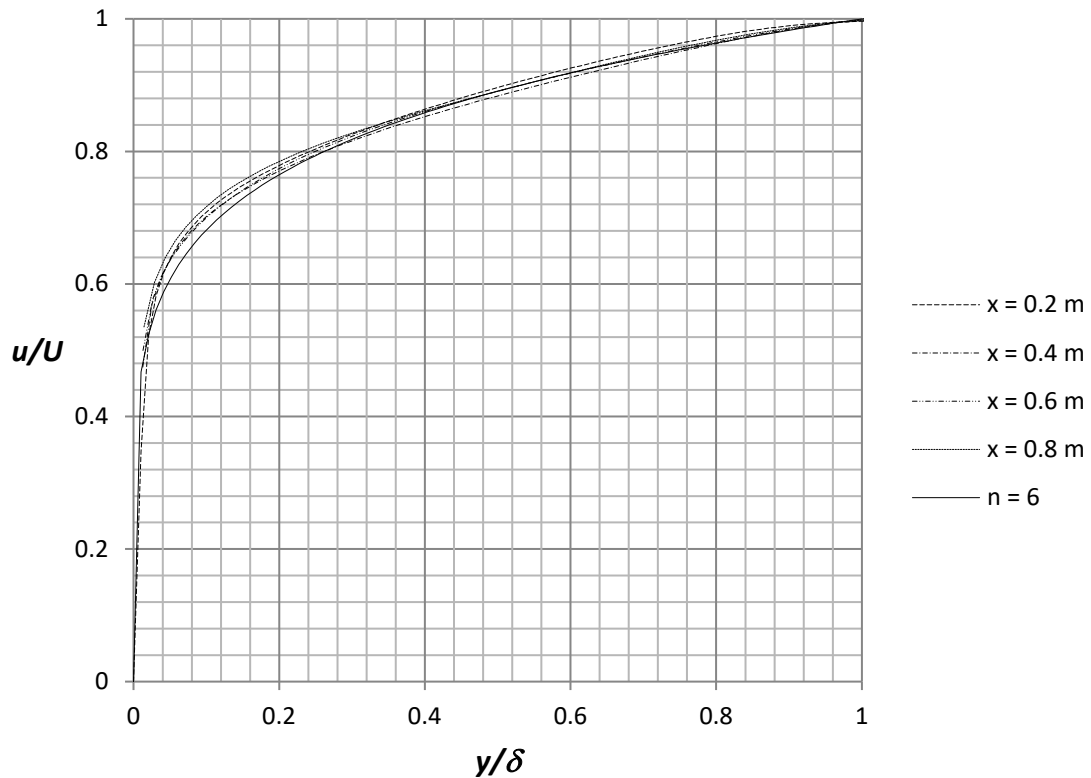

Figure 2.31 Velocity profiles compared with 1/6 power law for turbulent profile
31. Place the file “**graph 2.31**” on the desktop. Repeat step **24** and choose the sketch $x = 0.2, 0.4, 0.6, 0.8$ m and check the box for **Velocity (X)**. Rename the xy-plot to **Comparison with One-Sixth Power Law**. An Excel file will open with Figure 2.31. In figure 2.31 we compare the results from Flow Simulation with the turbulent profile for $n = 6$. The power-law turbulent profiles suggested by Prandtl are given by